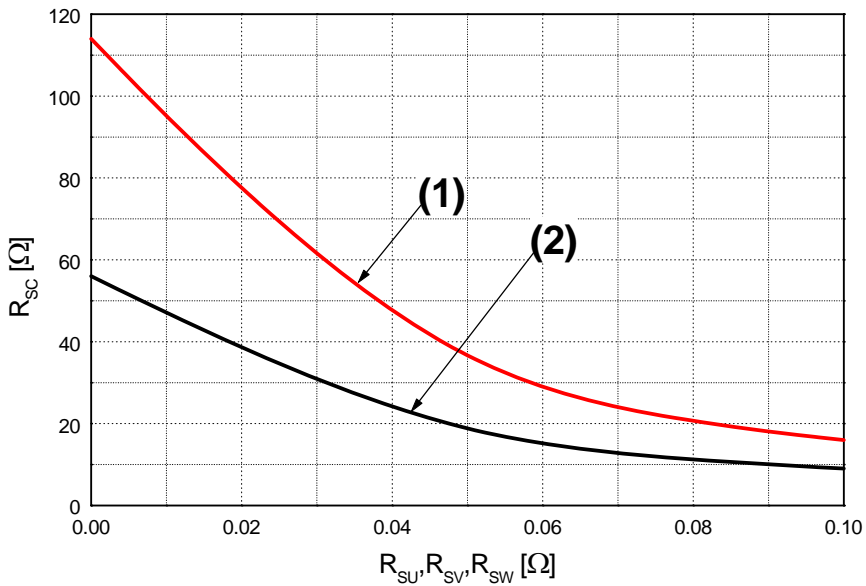

Fig. 7. R_{sc} Variation by change of Shunt Resistors (R_{SU}, R_{SV}, R_{SW}) for Short-Circuit Protection
- Short-circuit current protection is functioning only at the low-sides. It would be recommended that the value of the external sensing resistor (R_{SC}) should be selected around 56 Ω in order to make the SC trip-level of about 22.5 A at the shunt resistors (R_{SU}, R_{SV}, R_{SW}) of 0 Ω . For the detailed information about the relationship between the external sensing resistor (R_{SC}) and the shunt resistors (R_{SU}, R_{SV}, R_{SW}), please see Fig. 7.